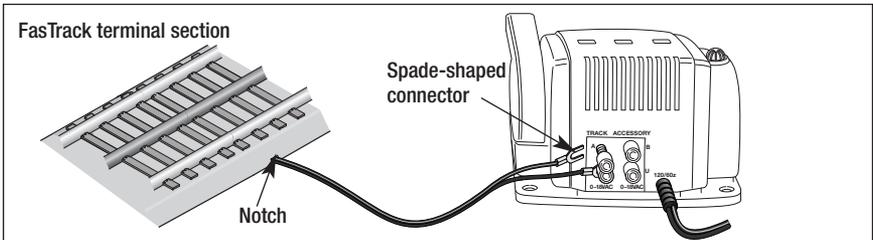

Figure 3. Transformer connections
- 1. Feed the wires through the notch in the FasTrack terminal section.** Refer to Figure 3.